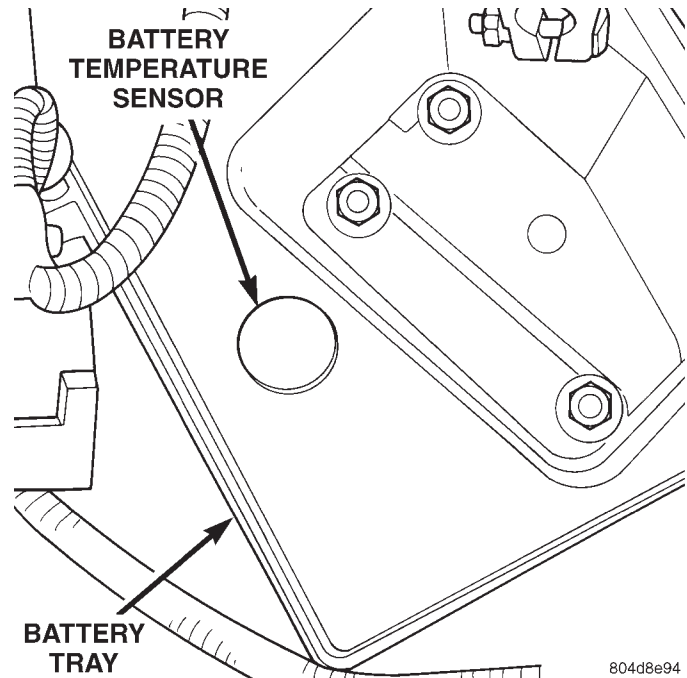

Fig. 2 Battery Temperature Sensor
(1) The sensor is located under the battery and is attached to the battery tray (Fig. 2). A two-wire pigtail harness is attached directly to the sensor. The opposite end of this harness connects the sensor to the engine wiring harness.
(2) Disconnect the two-wire pigtail harness from the engine harness.
(3) Attach ohmmeter leads to the wire terminals of the pigtail harness.
(4) At room temperature of 25° C (75–80° F), an ohmmeter reading of 9,000 (9K) to 11,000 (11K) ohms should be observed.
(5) If reading is above or below the specification, replace the sensor.
(6) Refer to the Removal and Installation section for procedures.